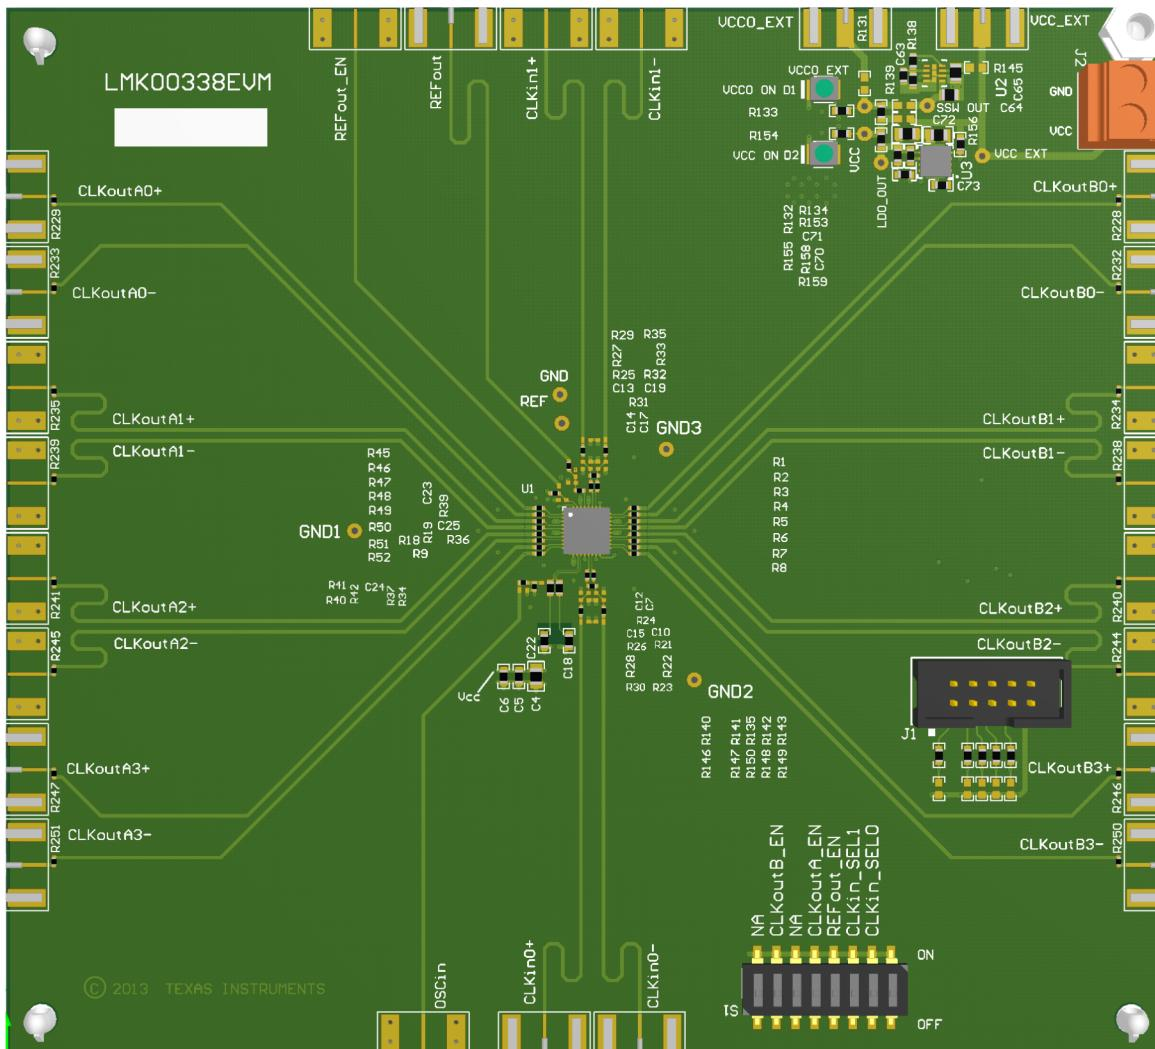

Figure 24. LMK00338 Layout Example
- For DC-coupled operation of an HCSL driver, terminate with $50\ \Omega$ to ground near the driver output as shown in Figure 24.